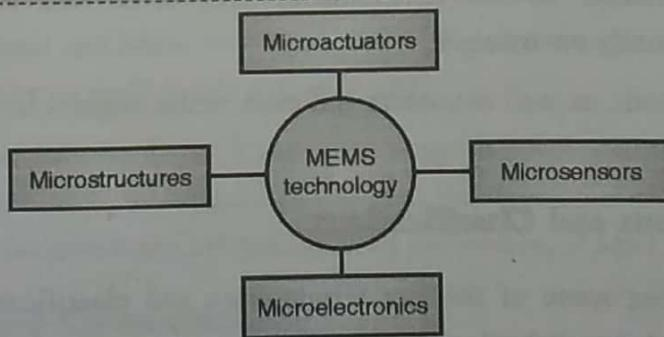

Fig.2.6.2 : Schematic illustration of MEMS components
- They are fabricated using integrated circuit (IC) batch processing techniques and can range in size from a few micrometers to millimetres. These devices (or systems) have the ability to sense, control and actuate on the micro scale, and generate effects on the macro scale.
- In the most general form, MEMS consist of mechanical microstructures, microsensors, microactuators and microelectronics, all integrated onto the same silicon chip. This is shown schematically in Fig. 2.6.2.